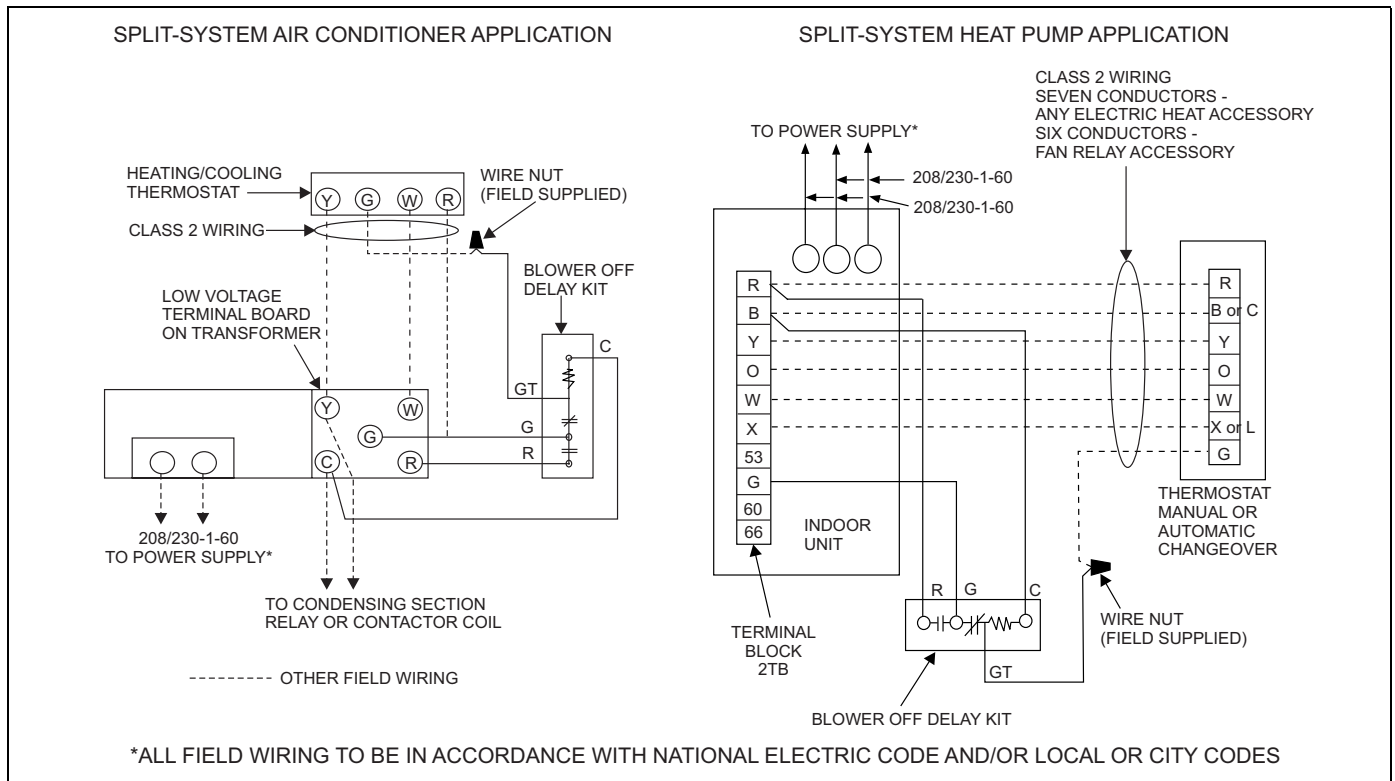

FIGURE 1: Field Wiring Diagrams
5. Mount the blower delay at a convenient location and complete the wiring as indicated in the Field Wiring Diagram (Figure 1). The relay must be located inside of the air handler or furnace cabinet.